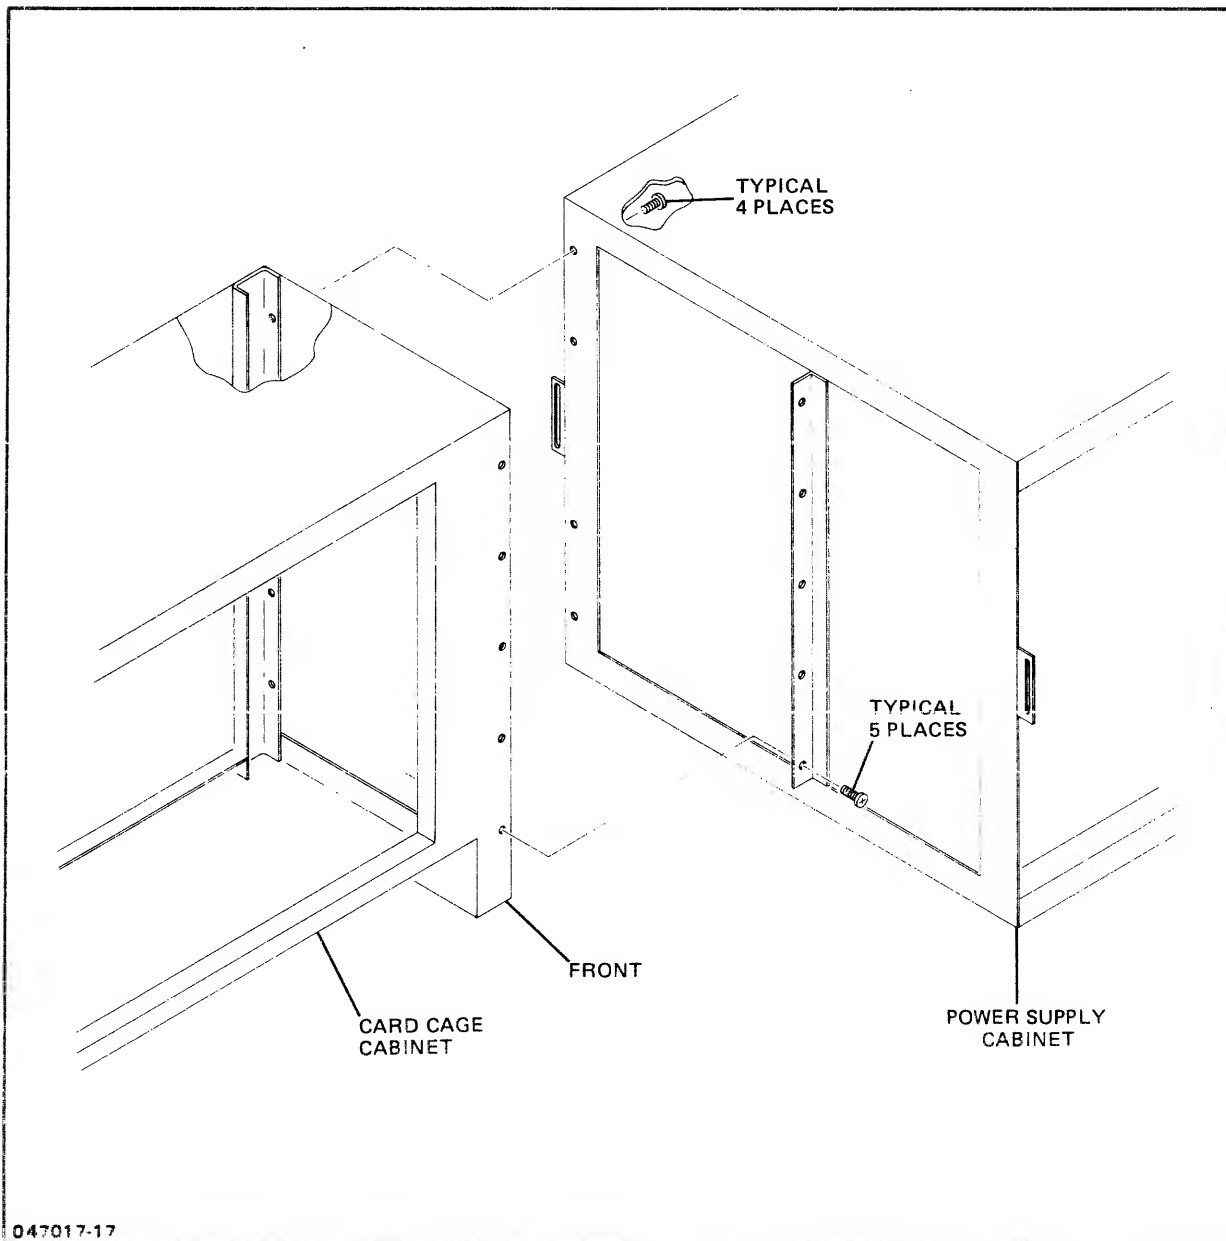

Figure A-3. Frame Mechanical Joining.
13. Remove the nine 3/16" cap screws, located as illustrated in figure A-3, and partially separate the chassis halves. Carefully feed all the cables through the side panel and through the power supply chassis until cabinets are fully separated.